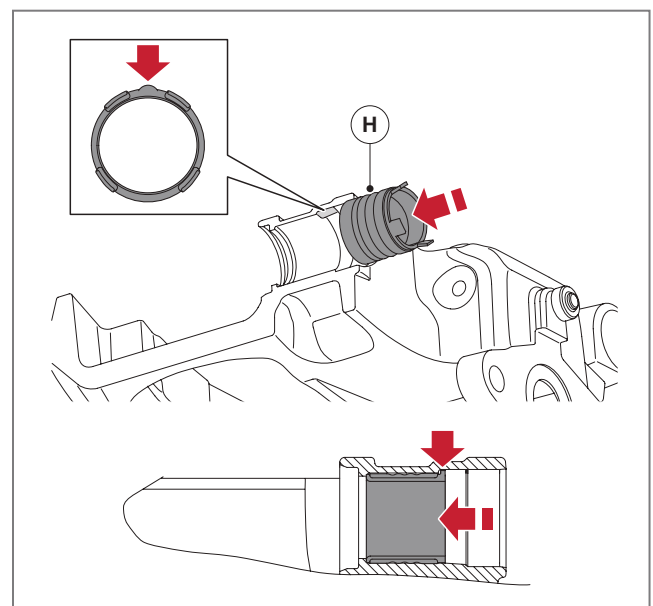

Fig. 68 - Inserting the floating bearing composite bushing
5. To install the new composite bushing (H) on the floating bearing side, push the bushing into place as far as it will go. Ensure correct alignment in the brake calliper aperture, see ► Fig. 68. No tools or excessive forces are required for this fitting process. Nor should they be used! If used they may cause damage! If the bushing is not aligned correctly, the guide pin and protective cap may not fit!